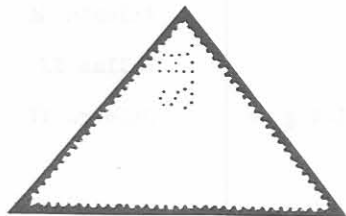

Figure 1
1. Non-rectangular Perfins. Thanks to Jan Prins, we have another example of a non-rectangular Perfin. Figure 1 shows an isosceles triangle, which is Netherlands, Scott #204. At first glance, this stamp appears to be a right angle triangle, but measurement shows the top angle is 78 degrees, with the other two being 51 degrees.